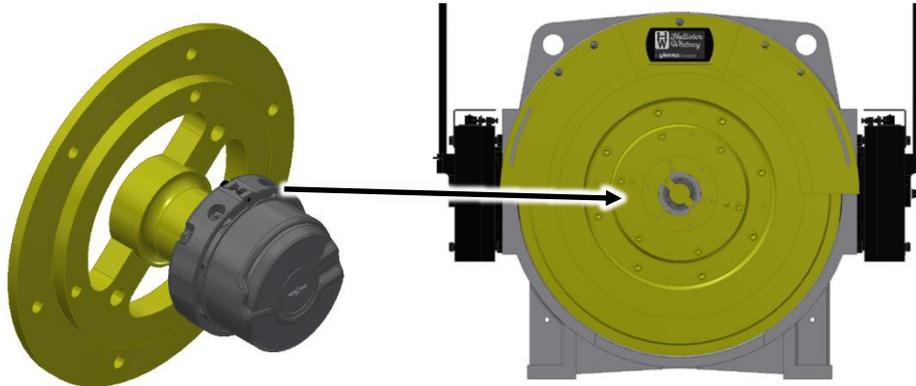

Figure 36
6. Replace Cover and attached Encoder. See Figure 36.